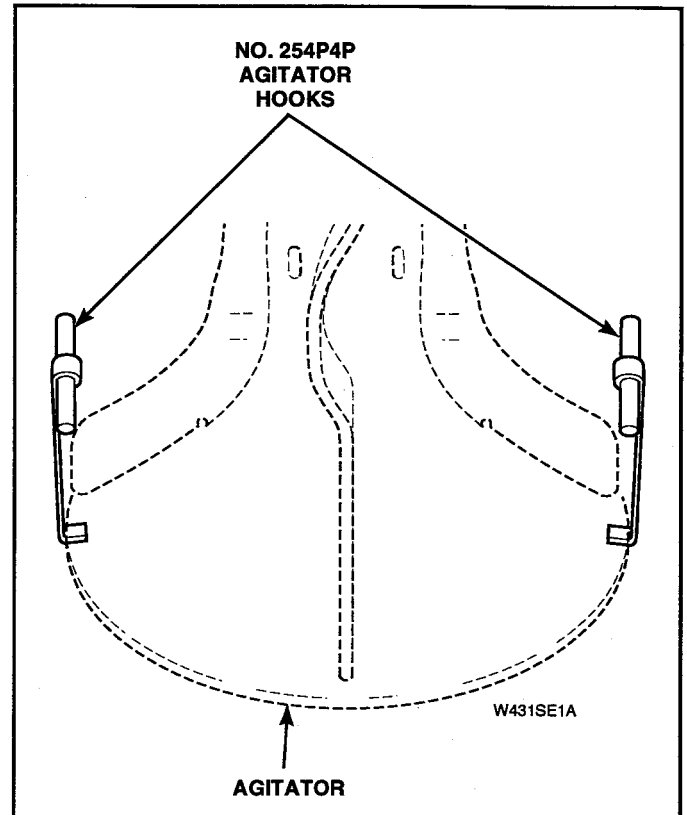

Figure 5-11
- Remove agitator by placing two agitator hooks, No. 254P4P, under bottom edge of agitator. See Figure 5-11.